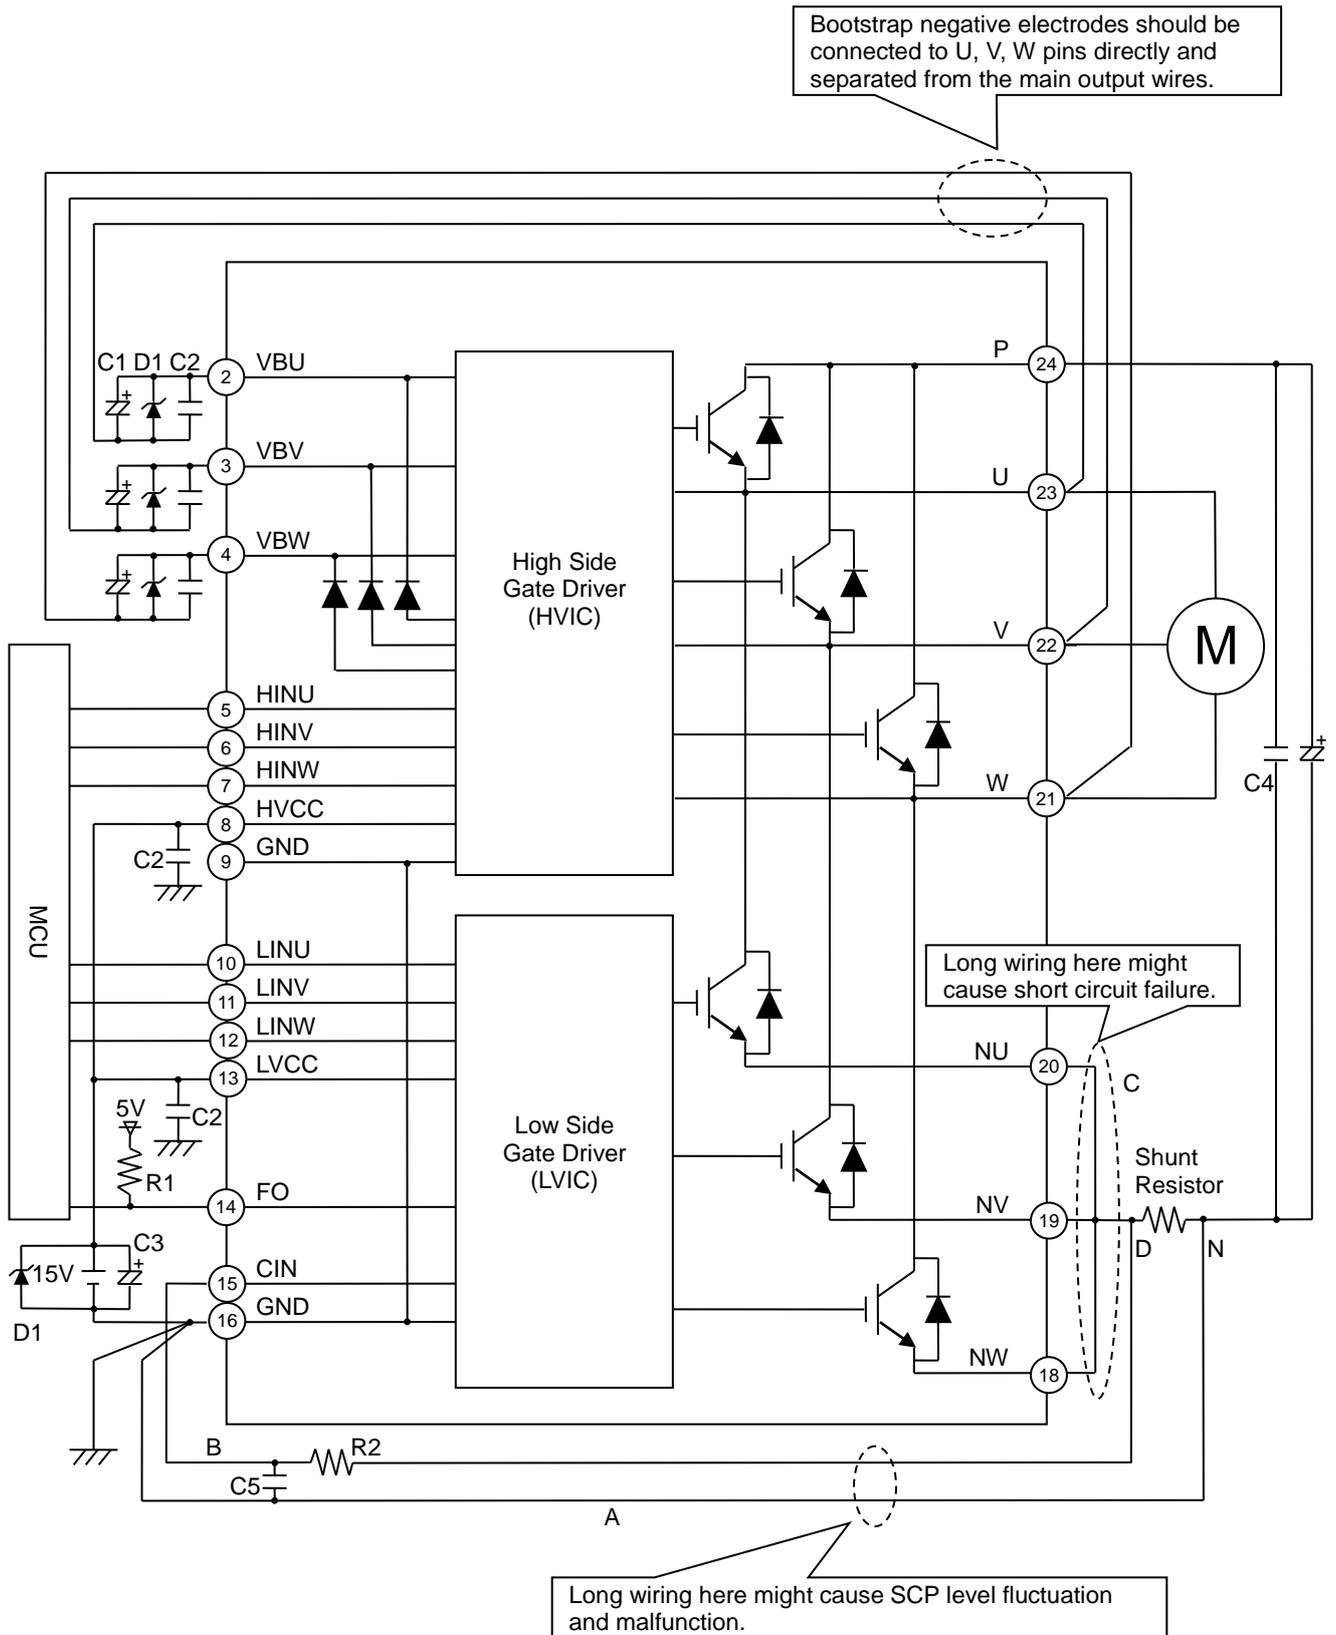

Figure 14. Example of Application Circuit
**Selection of Components Externally Connected (Refer to Figure 14)**